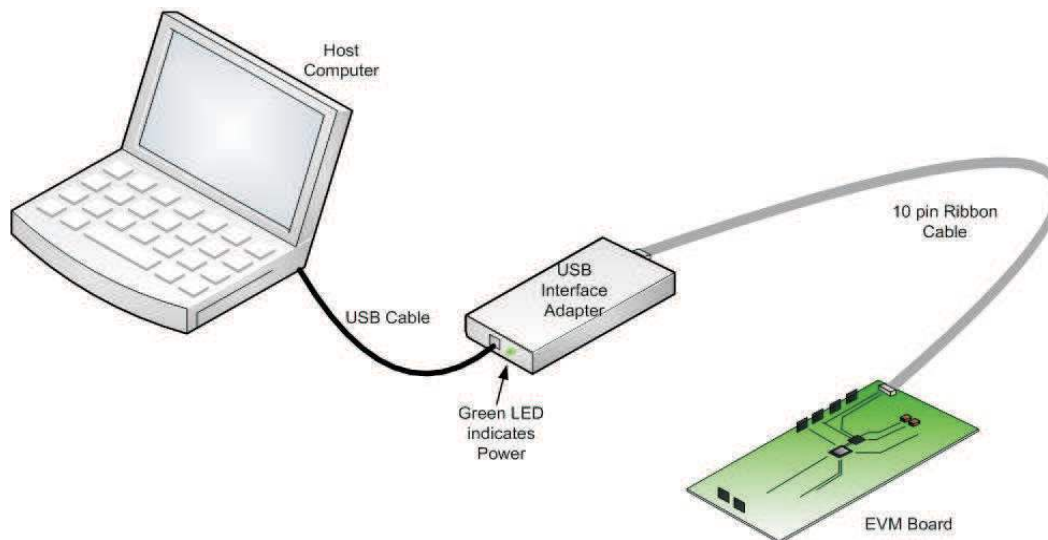

Figure 2. USB Interface Adapter Quick Connection Diagram
- Connect one end of the USB-TO-GPIO box to the PC using the USB cable and the other end to J3 of the TPS61195EVM-460 using the supplied 10-pin ribbon cable per Figure 2. The connectors on the ribbon cable are keyed and/or labeled to prevent incorrect installation.